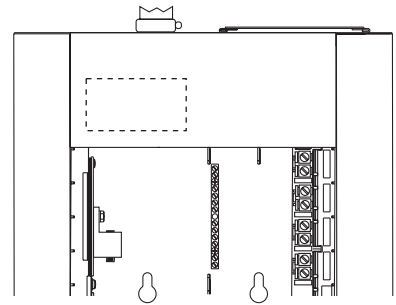

Figure 35: Rack circuit label placement
7. Attach enclosed load circuit number label as shown in Figure 35 below.